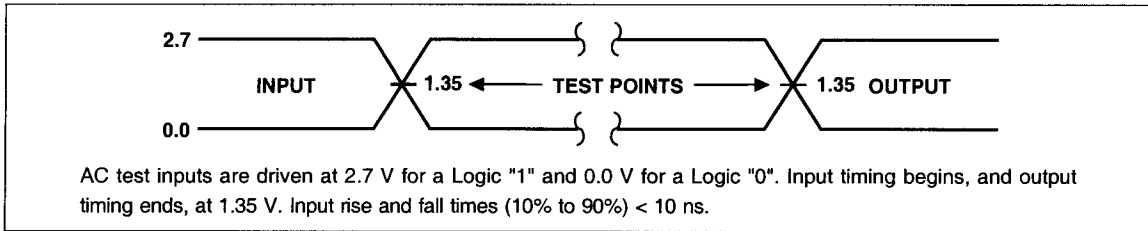
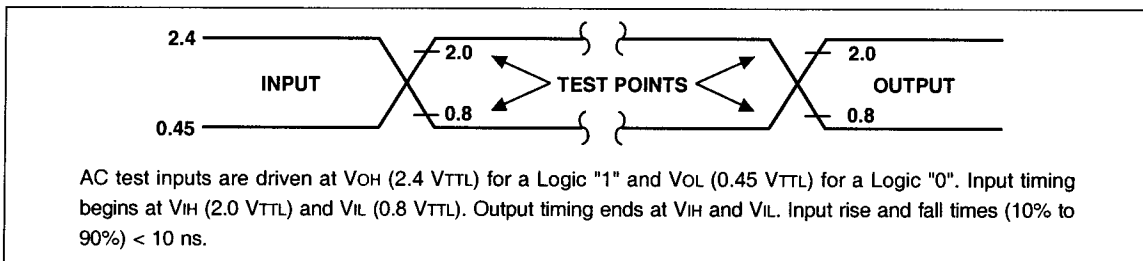

Fig. 9 Transient Input/Output Reference Waveform for  $V_{CC} = 2.7\text{ to }3.6\text{ V}$
Fig. 11 Transient Input/Output Reference Waveform for  $V_{CC} = 5.0\pm 0.5\text{ V}$  (Standard Testing Configuration)
1. See AC Input/Output Reference Waveform (Fig. 9 through Fig. 11) for maximum allowable input slew rate.